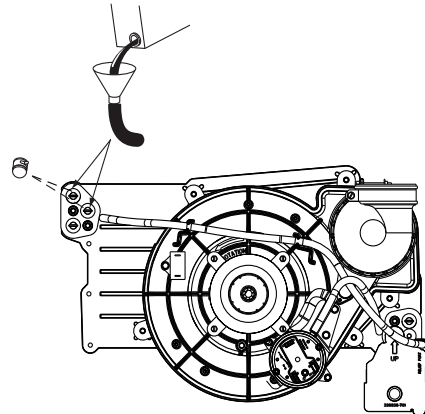

Fig. 59 – Priming Condensate Trap
1. Remove upper and middle collector box drain plugs opposite of the condensate trap. See (Fig. 59).